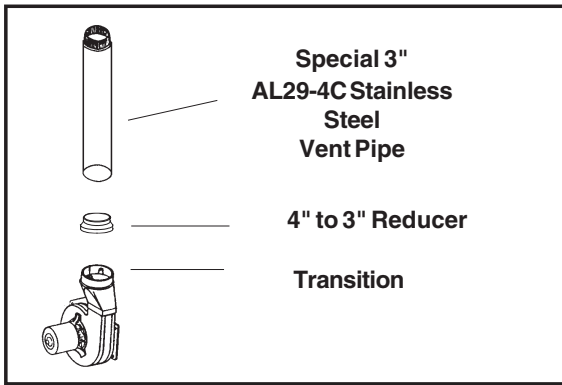

Figure 19. *TK Reducer Installation
5. Install and seal a 4" to 3" reducer to the transition. (See Figure 19.) Attach the new high temperature vent pipe to the reducer.